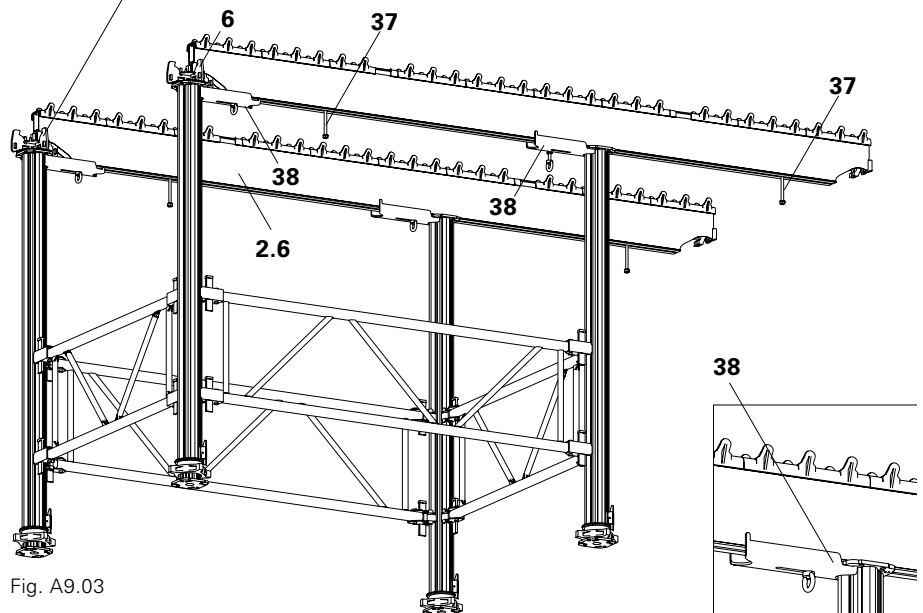

Fig. A9.03
- 2 x Table Connector STV (38).
- Sequence and alignment of bolts and table connectors: see Fig. A9.03.